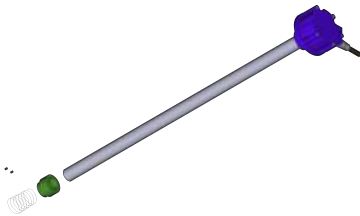

Figure 15: Removing M2 Grub Screw
- Remove the insulation bush for bottom separator of Capvel-FUEL by loosening the M2 grub screws as shown in Figure 15.